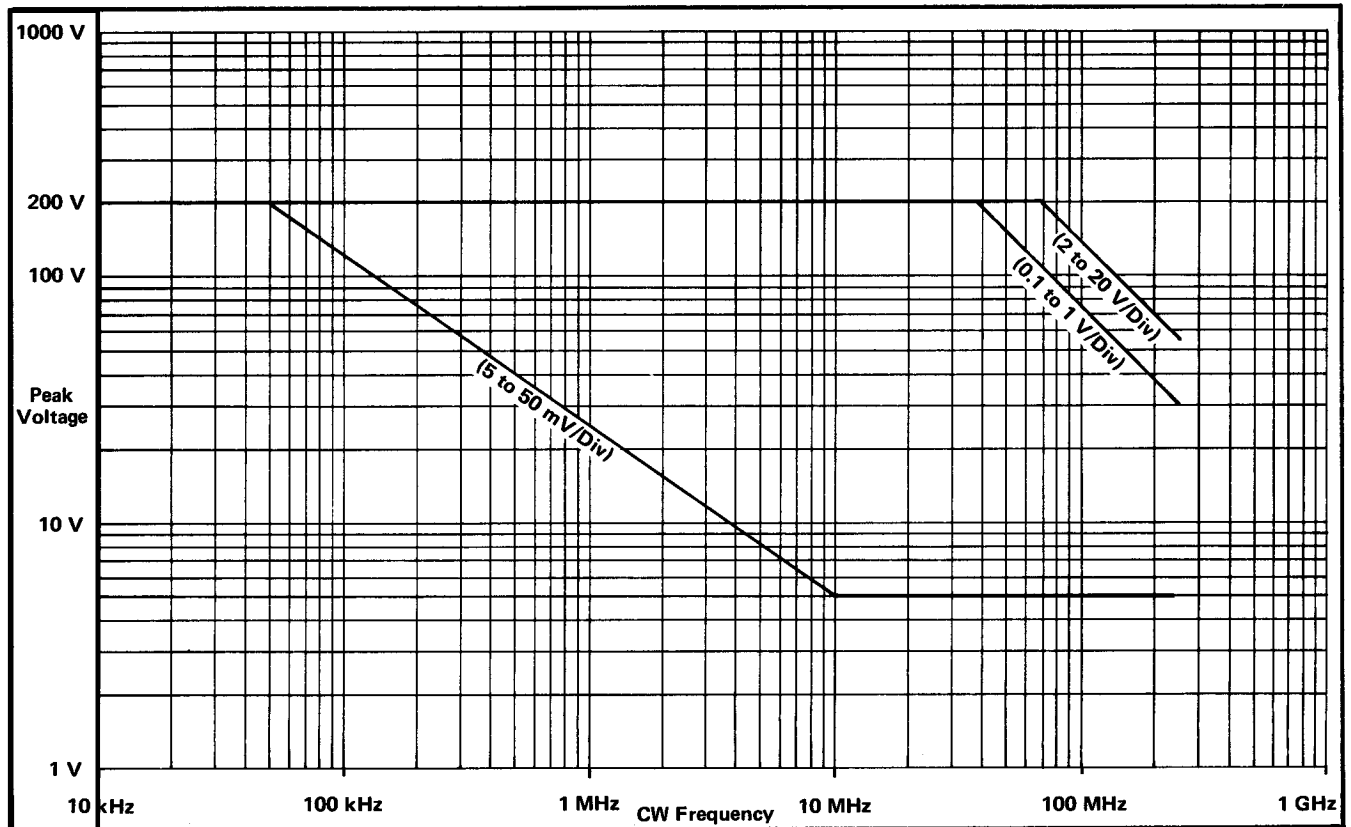

Fig. 1-2. Frequency versus maximum input amplitude derating graph.
AC, continuous wave 5 mV thru 50 mV	200 V peak to 50 kHz; see Fig. 1-2 for amplitude derating due to frequencies above 50 kHz
0.1 V thru 1 V	200 V peak to 40 MHz; see Fig. 1-2 for amplitude derating due to frequencies above 40 MHz
2 V thru 20 V	200 V peak to 70 MHz; see Fig. 1-2 for amplitude derating due to frequencies above 70 MHz